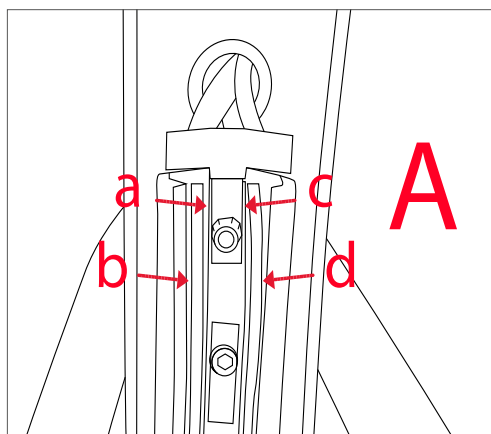

Figure 4.50 Cable location in tunnel
1. Insert the cables into the tunnel per Figure 4.50: